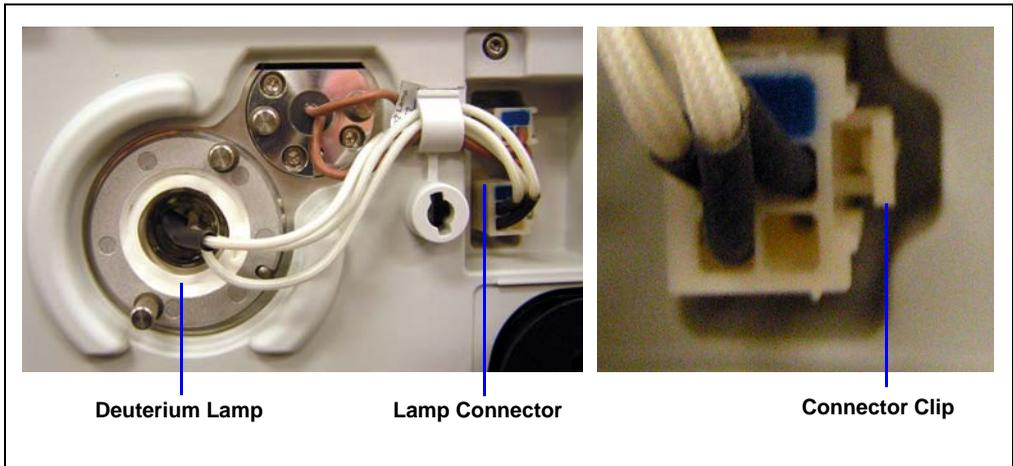

Figure 5-2. Deuterium Lamp, Connector, and Clip
6. Squeeze the clip on the deuterium lamp connector (see Figure 5-2) and pull out the connector from its source.